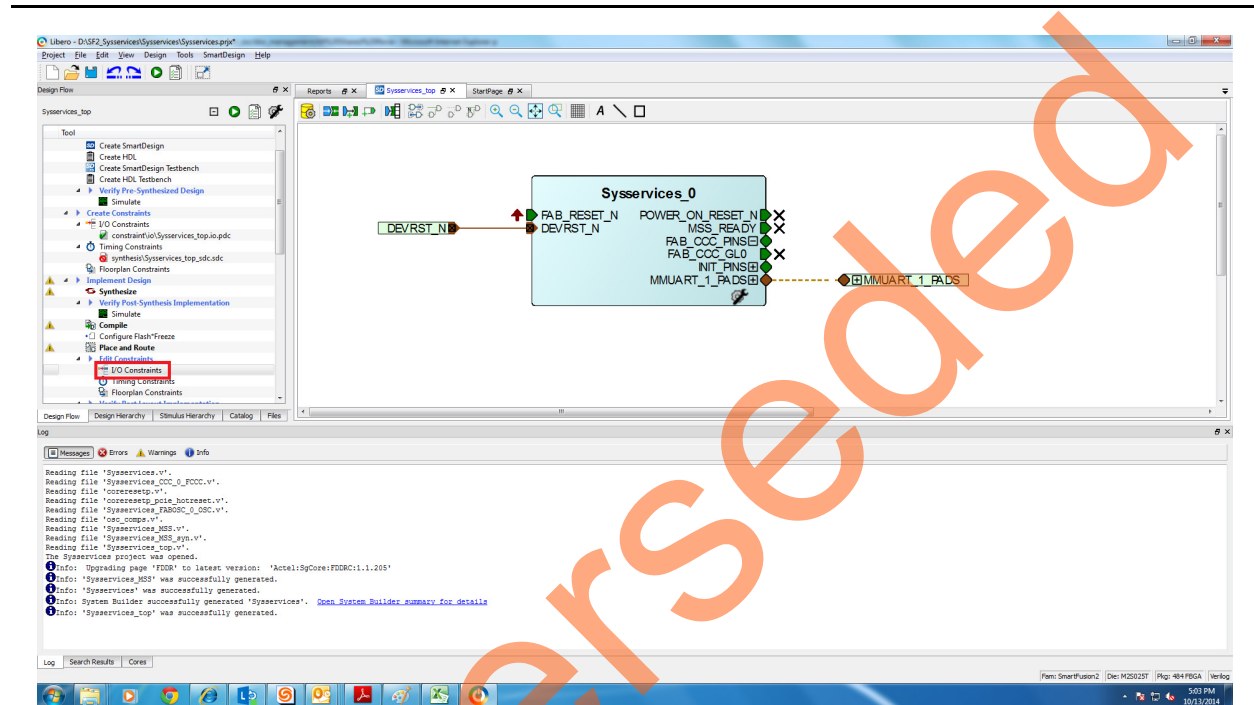

Figure 14 • Design Flow Window
1. Double-click **I/O Constraints** in the **Design Flow** window as shown in Figure 14. The **I/O Editor** window is displayed after completing **Synthesize** and **Compile**.